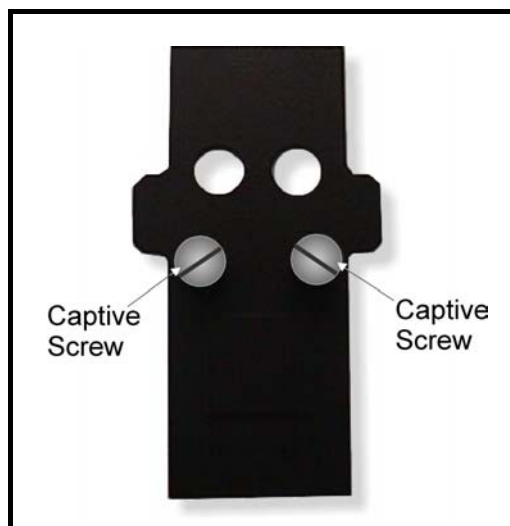

Figure 40: Safety Plate
1. Remove the Safety Plate (*Figure 40*) at the bottom of the LD1600 chassis (*Figure 1*) by undoing the two captive screws. (This step also releases the Blank Panel/s (if present) covering the Power Supply module slot/s.)